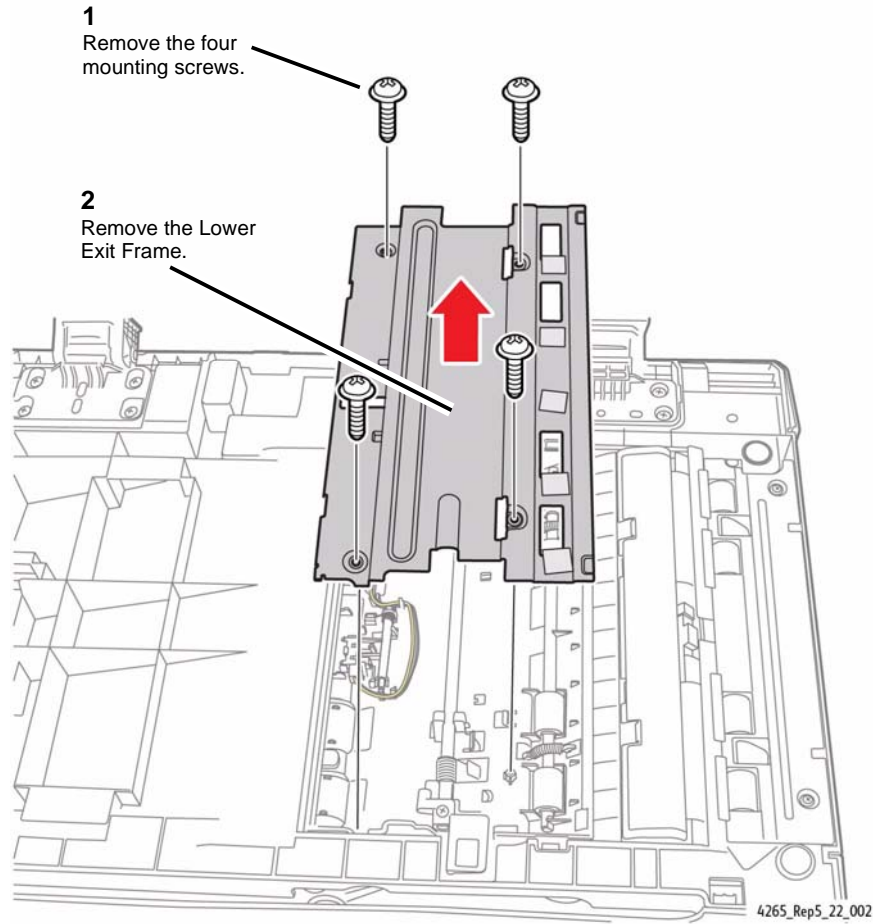

Figure 2 Removing the Lower Exit Frame
5. Remove the Lower Exit Frame (Figure 2).